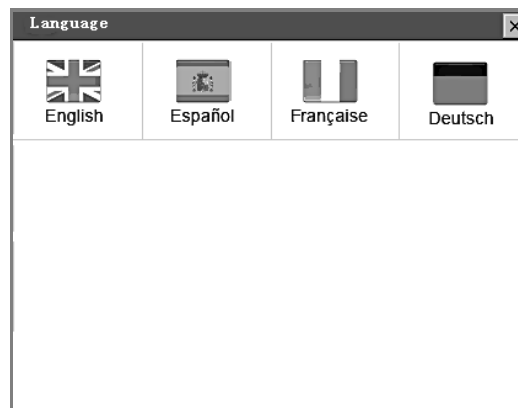

Figure 3.3
- 2) Use the **UP/DOWN** scroll button to select the desired language and press the **OK** button to save your selection and return to the previous screen. (Figure 3.3)